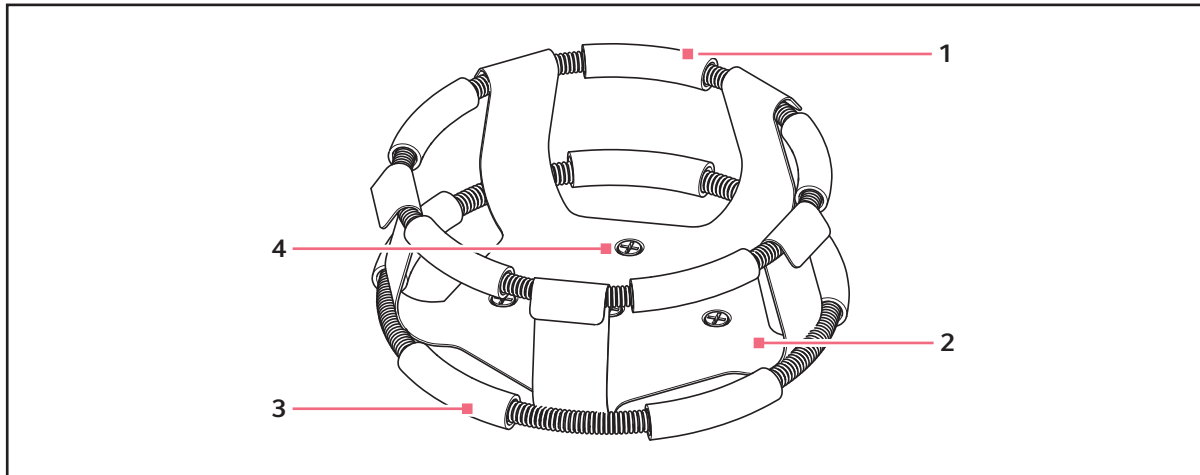

Fig. 4-3: Double girdle clamp installation
2. With the first girdle in place, as delivered, on the upper part of the clamp body (see Fig. 4-3 on p. 20), insert an empty flask into the clamp.